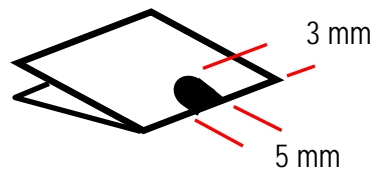

Figure 18f
21. Fold in half the longer length of each piece, and then cut a hole at the middle of the fold: 3 mm deep by 5 mm wide (see Figure 18f).